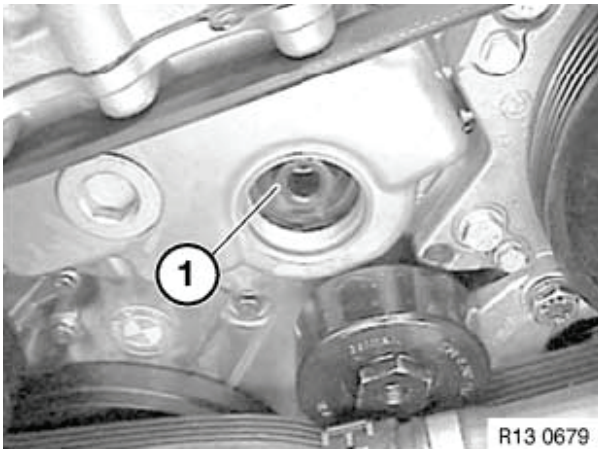

Figure 6-24
10. Hold crankshaft to prevent turning and remove nut (Figure 6-24, (1)).